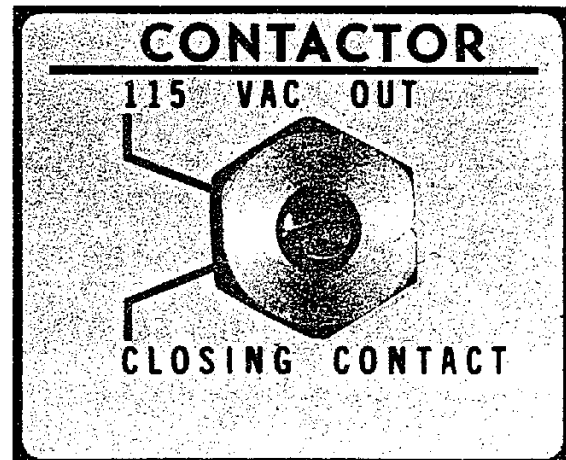

Figure 13
19. Place the Contactor Switch, **Fig. 13**, into the proper position for **your** welding power source. When the switch is in the "115 VAC OUT" position, 115 VAC is provided to the welding power source to close the contactor. The "CLOSING CONTACT" position is for power sources that provide their own current for operating the contactor.
4. Place the Contactor Switch, **Fig. 13**, into the proper position for **your** welding power source. When the switch is in the "115 VAC OUT" position, 115 VAC is provided to the welding power source to close the contactor. The "CLOSING CONTACT" position is for power sources that provide their own current for operating the contactor.